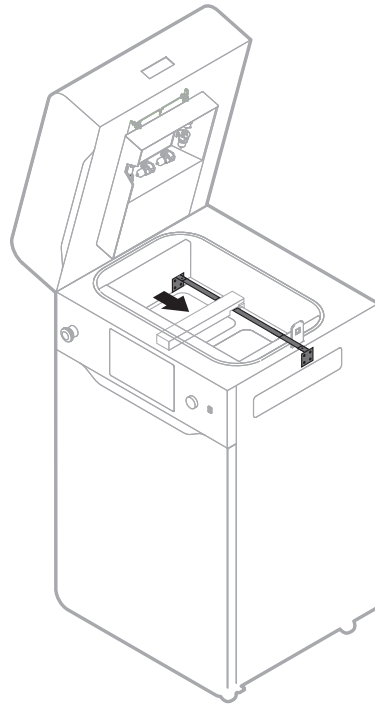

Fig. 4 Positioning the Recoater.
4. While holding the Recoater strip, position the Recoater in the middle, between the beds (fig. 4). Use one of the available ways: